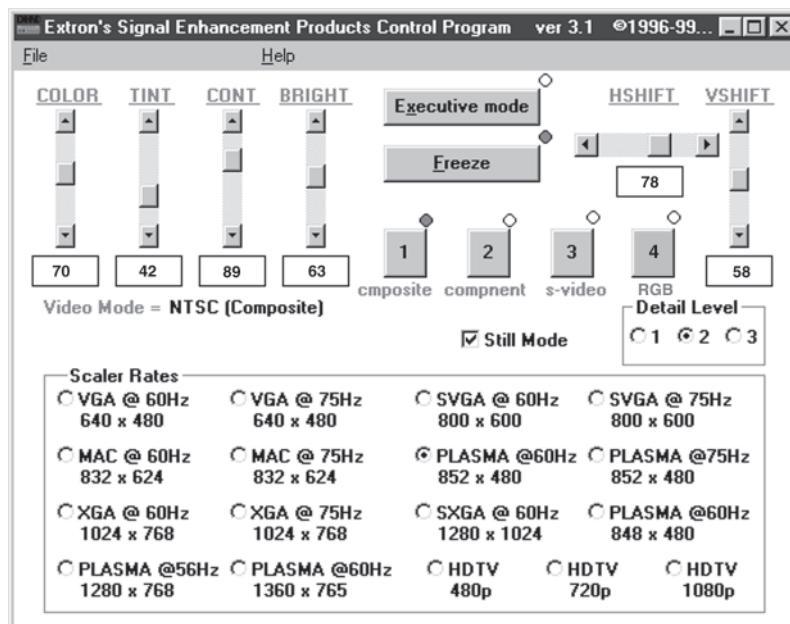

Figure 11 — Signal Enhancement Products Control Program
- Click on the comm port that is connected to the scaler's RS-232 port. The Extron Signal Enhancement Products Control Program window appears. It displays the current settings and input type detected (see figure 11).